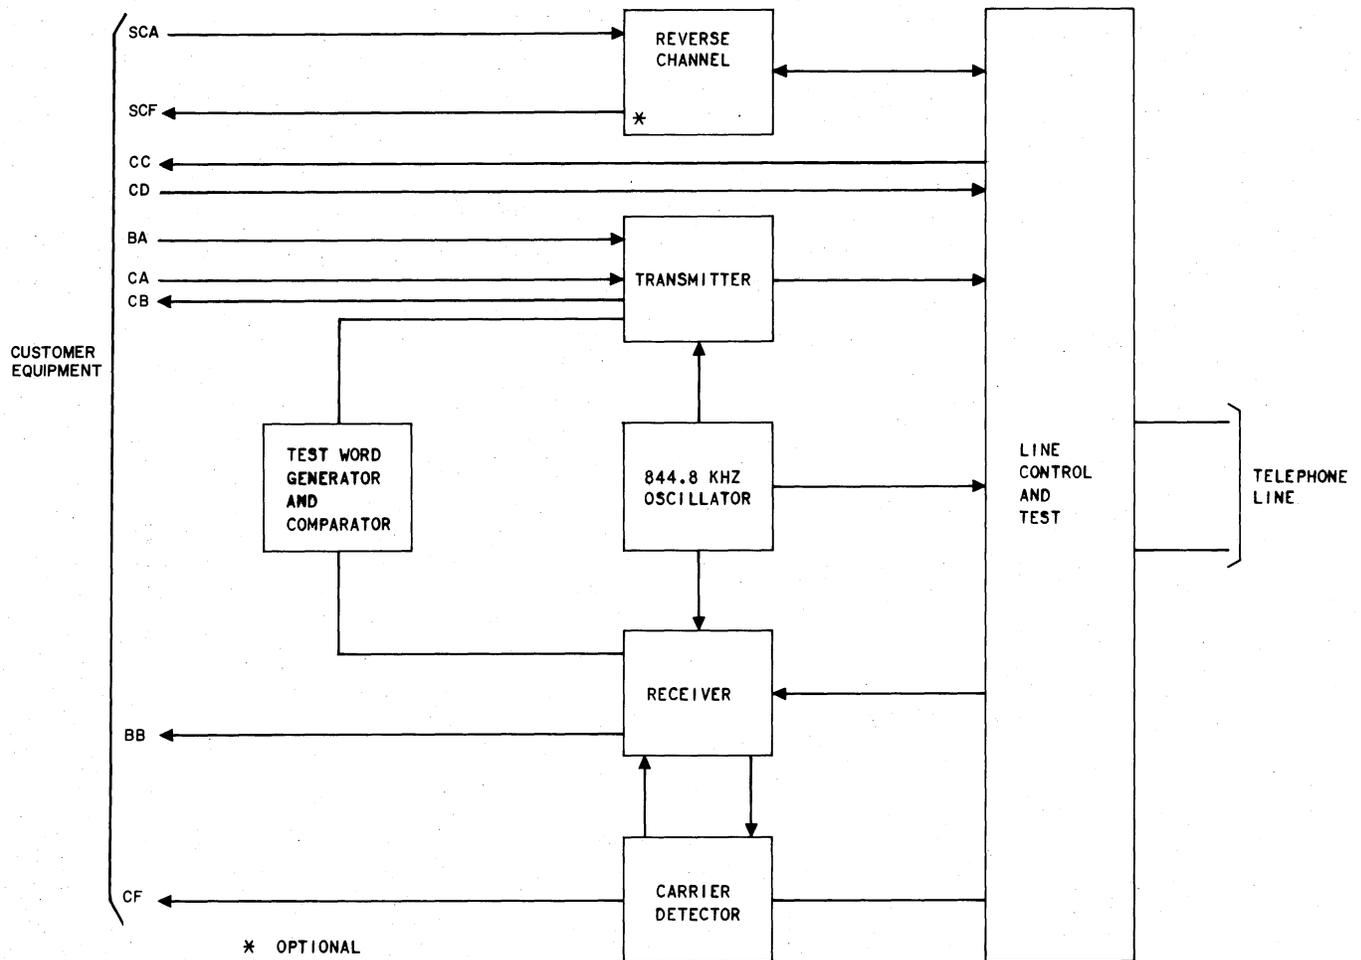

Fig. 6—Block Diagram of Data Set 202S
**4.14** A block diagram of the data set showing transmitter and receiver functions for both the primary and optional reverse channels as well as part of the customer and telephone interface is shown in Fig. 6.